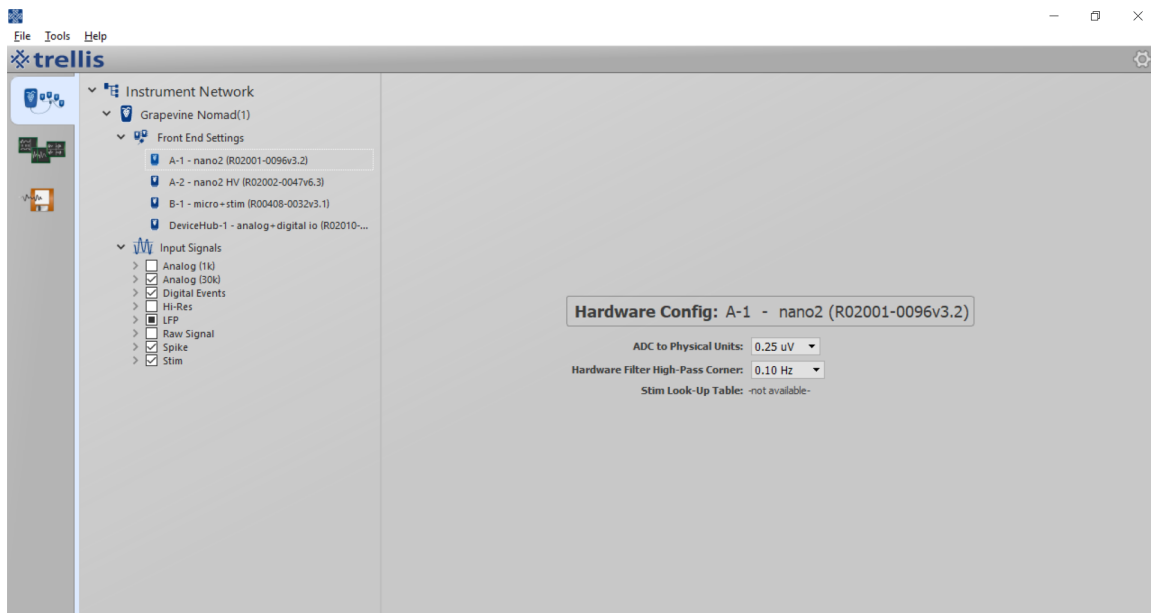

Figure 3-5 Trellis Instruments – Front End user-controlled settings
- User-controlled parameters for specific Front Ends can be set by selecting a Front End entity, as shown in Figure 3-5.
Hardware information for Link style Front Ends can be found by clicking on the Front End entity similar to that shown in Figure 3-5. On this page the transceiver can be turned on and off to pair with the implant.
- **Front-End User-Controlled Hardware Settings.** The following Front Ends have hardware-level settings that can be user-controlled by selecting a Front End entity in the Instrument Network Panel, as shown in Figure 3-5.